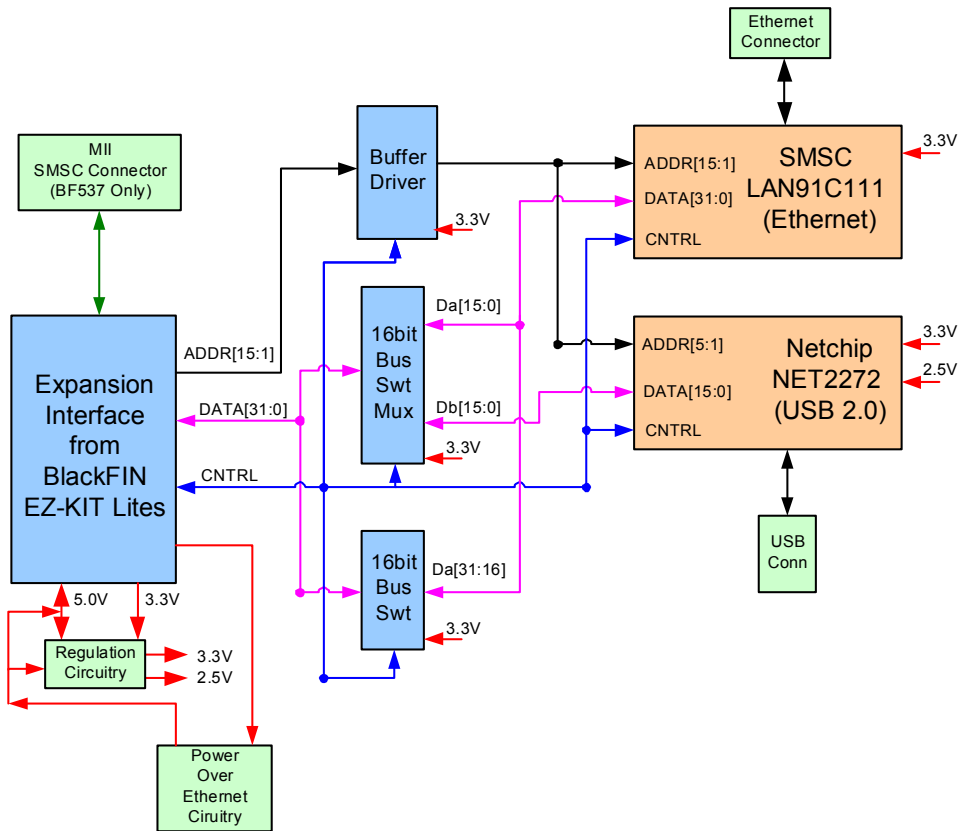

Figure 2-1. Block Diagram
4. Set the switches and jumpers on USB-LAN EZ-Extender board. Use the block diagram in Figure 2-1 on page 2-2 in conjunction with “Jumper Setting” on page 2-3 and “Switch Settings” on page 2-6.
A block diagram of the Blackfin USB-LAN EZ-Extender is shown in Figure 2-1.